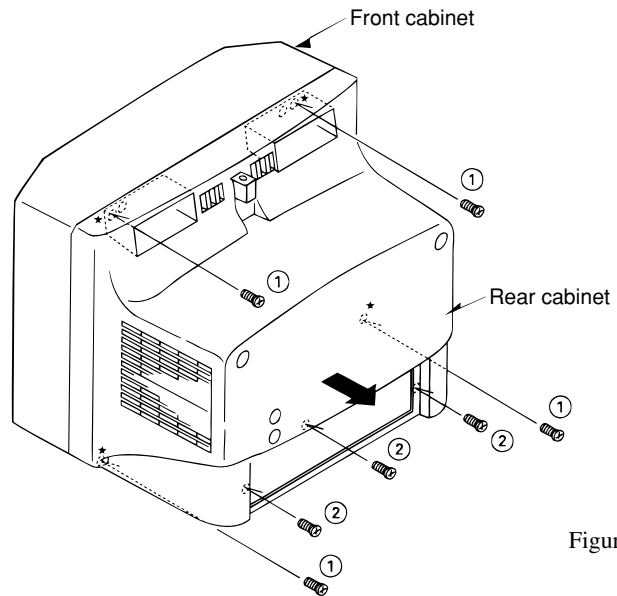

Figure 1-1
- (1) Remove four screws ① and three screws ②, then remove the rear cabinet in the direction of the arrow. (See Figure 1-1)